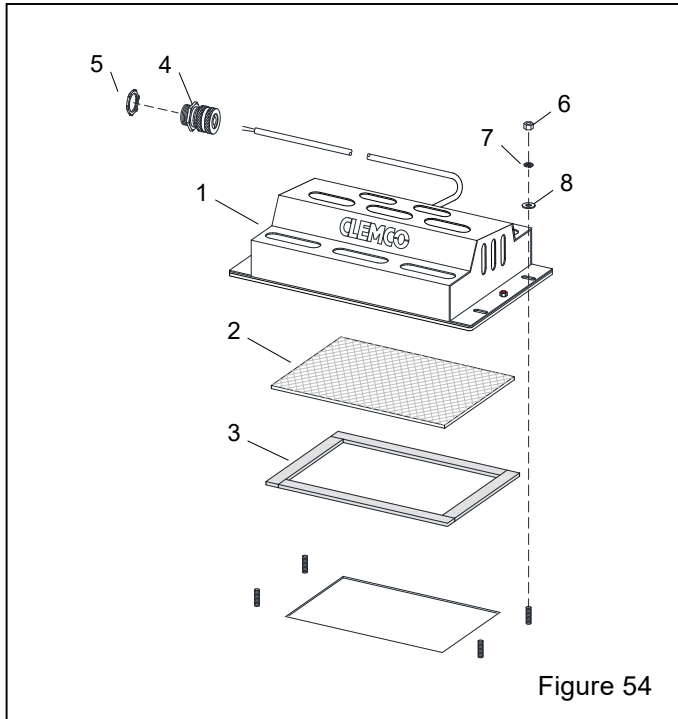

Figure 54
10.7 LED Light Assembly – Figure 54